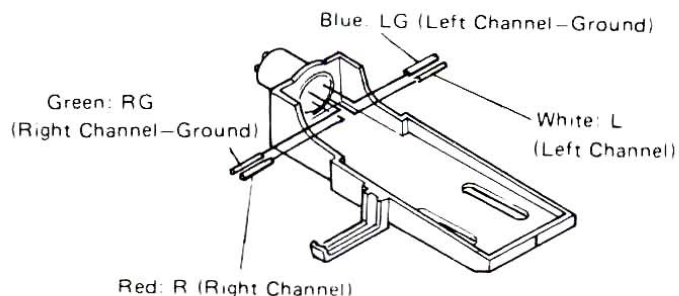

Fig. 7 Replacing cartridge
- (1) Loosen the lock nut of the tonearm, and remove the headshell from the tonearm.
- (2) Loosen the screws fastening the cartridge to the headshell, then remove the cartridge from the headshell.
- (3) Remove the four lead wires of the headshell from the cartridge, taking care not to damage the wires.
- (4) Connect the four lead wires to the new cartridge. The four lead wires are colour-coded as shown in Fig. 7 to help identify their polarities. Be sure to match the polarities correctly between the headshell and the new cartridge.
- (5) Secure the cartridge to the headshell tentatively (not too firmly).
- (6) Adjust the overhang. This is accomplished by moving the tonearm all the way to above the center spindle of